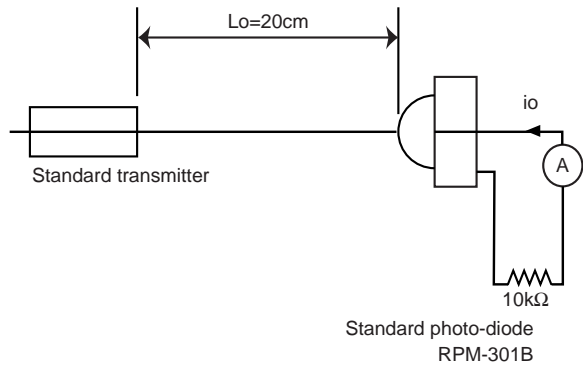
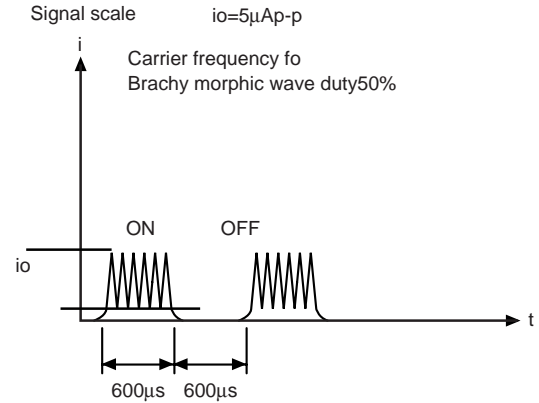

Fig.2 Measurement of standard transmitter proofreading
Fig.3 Standard photo diode current
When standard transmitter output the signal at Fig.1 standard photodiode output become  $i_o=5\mu\text{A}_{p-p}$  (Fig.3) under the measurement condition Fig.2.
- (1) All characteristics of the receiver in this specification are specified by supplying burst wave form (Fig.1) with ROHM standard transmitter (Fig.2).